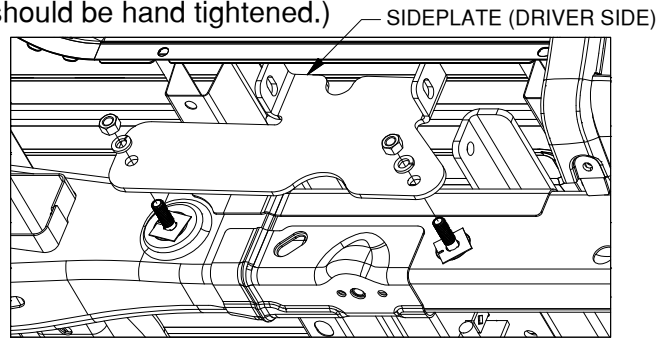

Figure C4: View of driver side wheel well.
3. **Install sideplates.** Each sideplate (driver and passenger side) will install over the carriage bolts previously placed into the frame. Slowly guide the sideplate over the carriage bolts and between the cross members. Attach each plate (driver side shown below) with two 1/2" lock washers and 1/2" finish nuts, see figure C4. Do not fully tighten at this time. (Bolts should be hand tightened.)